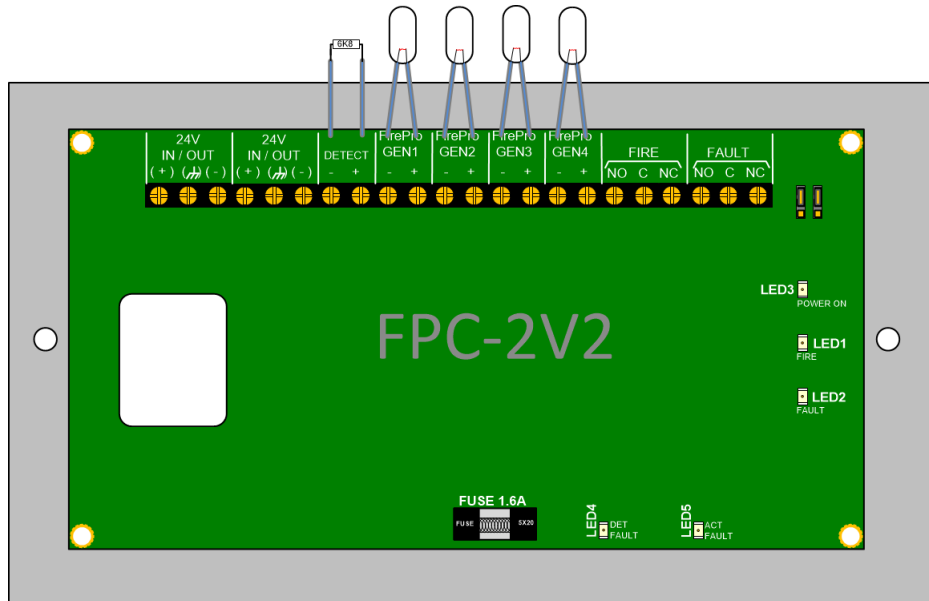

Figure 10 – Connections to FirePro Gen outputs to test system.
- Step 5 Locate the fuse holder as indicated in Figure 10.